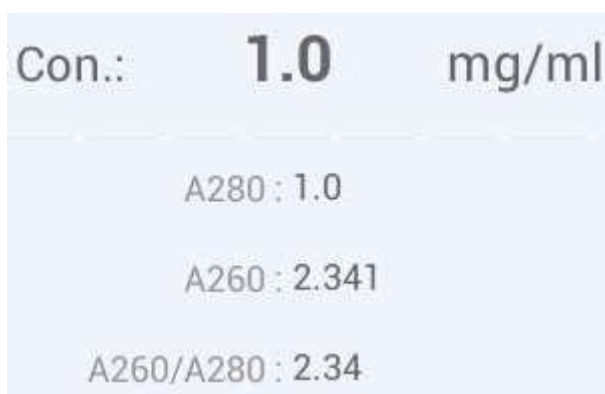

Fig 4.11 Protein measurement data
- 3) The detection result data can be displayed as Fig 4.11.